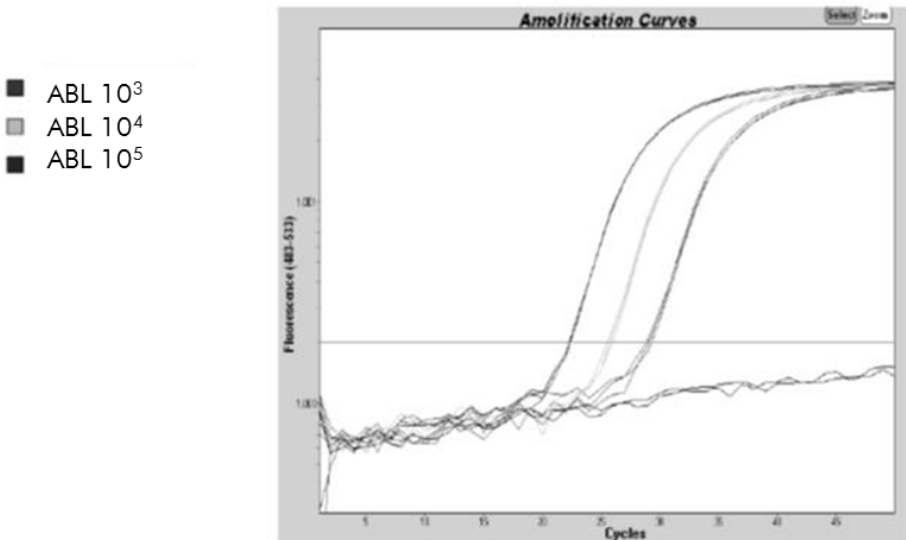

Figure 7. Detection of ABL standards (C1, C2, C3). 10³, 10⁴ and 10⁵ copies/5 μ l.
Using standards with a known number of molecules, one can establish a standard curve and determine the precise amount of target present in the test sample. The *ipsogen* standard curves are plasmid-based; we use 3 plasmid standard dilutions for the ABL control gene (CG), and 5 standard dilutions for the fusion gene (PML-RARA bcr1) to ensure accurate standard curves. Figures 7 and 8 show an example of TaqMan amplification curves obtained with the *ipsogen* PML-RARA bcr1 Kit.